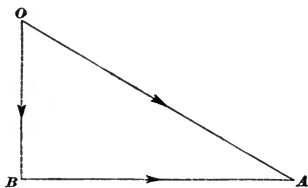

FIG. 5
the resultant of two forces whose action upon a body will be the same as that of a single force. Thus, in Fig. 5, the force  $OA$  may be resolved into two forces  $OB$  and  $BA$ . If the force  $OA$  acts upon a body moving or at rest upon a
**85.** It frequently happens that the position, magnitude, and direction of a certain force is known, and that it is desired to know the effect of the force in some direction other than that in which it acts. Thus, in Fig. 5, suppose that  $OA$  represents, to some scale, the magnitude, direction, and line of action of a force acting upon a body at  $A$ , and that it is desired to know what effect  $OA$  produces in the direction  $BA$ . Now  $BA$ , instead of being horizontal, as in the figure, may have any direction. To find the value of the component of  $OA$  which acts in the direction  $BA$ , we use the following rule:
Thus, suppose  $OA$ , Fig. 5, represents a force acting upon a body resting upon a horizontal plane, and it is desired to know what *vertical pressure*  $OA$  produces on the body. Here the desired direction is vertical; hence, from one extremity, as  $O$ , draw  $OB$  parallel to the desired direction (vertical in this case), and from the other extremity draw  $AB$  perpendicular to  $OB$  and intersecting  $OB$  at  $B$ . Then  $OB$ , when measured to the same scale as  $OA$ , will be the value of the vertical pressure produced by  $OA$ .